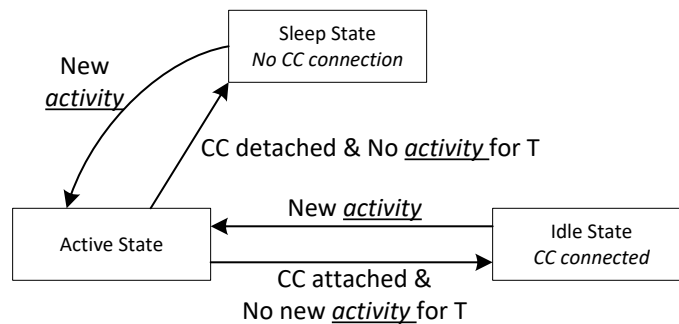

Figure 9-32. Flow Diagram for Power States
The TPS25750 can operate in one of three different power states: Active, Idle, or Sleep. The Modern Standby mode is a special case of the Idle mode. The functionality available in each state is summarized in Table 9-6. The device will automatically transition between the three power states based on the circuits that are active and required. See Figure 9-32. In the Sleep state, the TPS25750 will detect a Type-C connection. Transitioning between the Active mode to Idle mode requires a period of time (T) without any of the following activity: